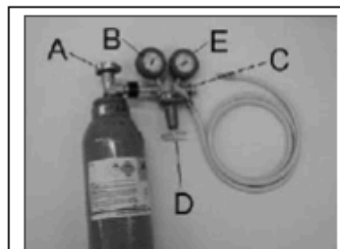

Figure 3 – Compressed Air Bottle
- 4.3.2 Close the air outlet by turning a regulating screw (C) on the pressure reducer (see Figure 3).